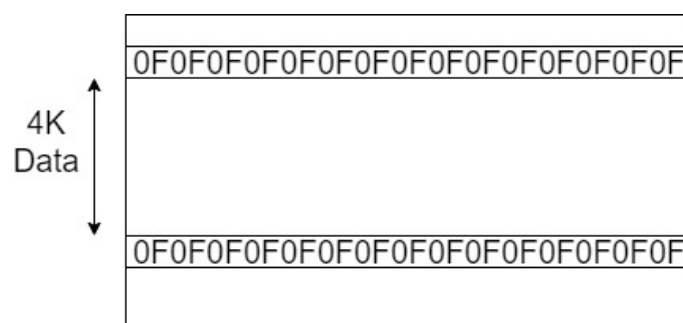

Figure 2: Predefined pattern
- **Predefined pattern:** the IP writes some specific patterns at the start and the end of a predefined amount of data. The host program bases on these patterns to detect the valid values. By this way, the host can read data continuously and doesn't need to synchronise with the IP. The host can extract the valid data based on the pattern. The idea is illustrated in figure 2: